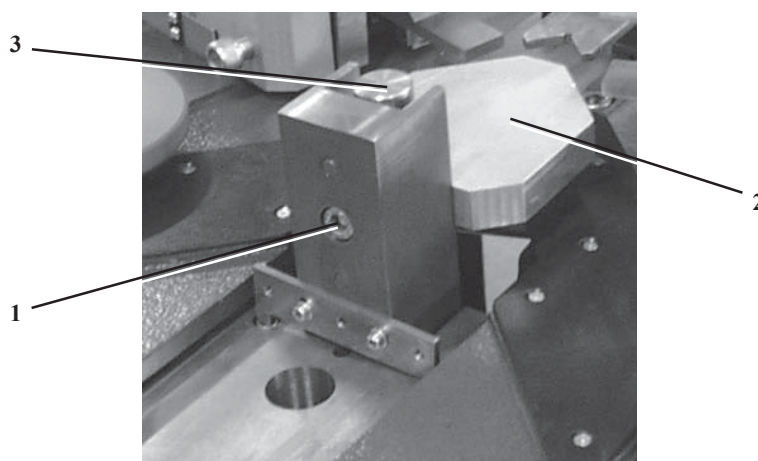

Fig. 5.5
- Loose the screw (1, fig. 5.5) which blocks the bracing clamp(2).
- Insert the bracing clamp (2) into the holding catch (3).
- Fasten the bracing clamp by tightening the screw (1).